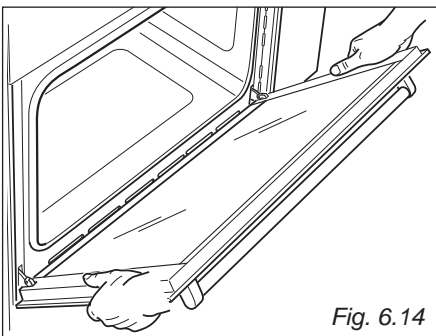

Fig. 6.14
- Hold the door as shown in fig. 6.14.